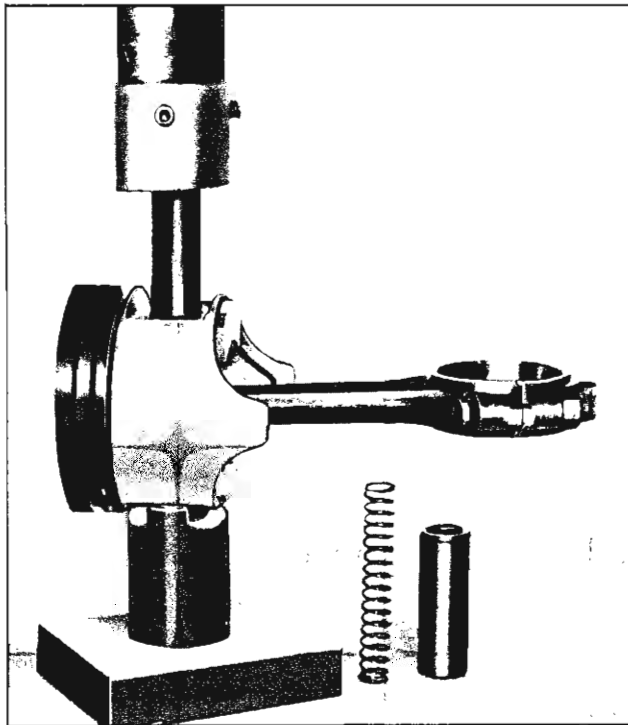

Fig. 55—Removing Piston Pin
4. Place a piece of Plastigage the full width of the bearing on crankpin (parallel to the crankshaft) (fig. 55).
- Install piston and connecting rod assembly on support and place assembly in an arbor press as shown in Figure 55. Press pin out of connecting rod.